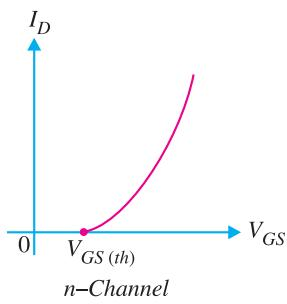

**Fig. 19.55**
Two things are worth noting about *E-MOSFET*. First, *E-MOSFET* operates *only* in the enhancement mode and has no depletion mode. Secondly, the *E-MOSFET* has no physical channel from source to drain because the substrate extends completely to the  $\text{SiO}_2$  layer [See Fig. 19.55 (i)]. It is only by the application of  $V_{GS}$  (gate-to-source voltage) of proper magnitude and polarity that the device starts conducting. The minimum value of  $V_{GS}$  of proper polarity that turns on the *E-MOSFET* is called *Threshold voltage* [ $V_{GS(th)}$ ]. The *n*-channel device requires positive  $V_{GS} (\geq V_{GS(th)})$  and the *p*-channel device requires negative  $V_{GS} (\geq V_{GS(th)})$ .
**Operation.** Fig. 19.55 (i) shows the circuit of *n*-channel *E-MOSFET*. The circuit action is as under :
(i) When  $V_{GS} = 0\text{V}$  [See Fig. 19.55(i)], there is no channel connecting the source and drain. The *p* substrate has only a few thermally produced free electrons (minority carriers) so that drain current is essentially zero. For this reason, *E-MOSFET* is normally *OFF* when  $V_{GS} = 0\text{ V}$ . Note that this behaviour of *E-MOSFET* is quite different from *JFET* or *D-MOSFET*.
(ii) When gate is made positive (*i.e.*  $V_{GS}$  is positive) as shown in Fig. 19.55 (ii), it attracts free electrons into the *p* region. The free electrons combine with the holes next to the  $\text{SiO}_2$  layer. If  $V_{GS}$  is positive enough, all the holes touching the  $\text{SiO}_2$  layer are filled and free electrons begin to flow from the source to drain. The effect is the same as creating a thin layer of *n*-type material (*i.e.* inducing a thin *n*-channel) adjacent to the  $\text{SiO}_2$  layer. Thus the *E-MOSFET* is turned *ON* and drain current  $I_D$  starts flowing from the source to the drain.